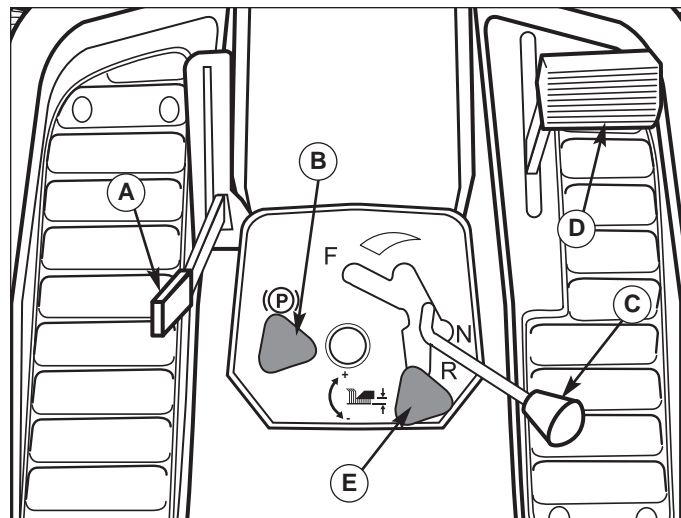

Figure 4. Controls
1. Remove the fuel cap (A, Figure 4).
Ground speed is selected by depressing the clutch/brake pedal (D, Figure 4) and moving the control lever (C, Figure 4) to the appropriate speed selection. If the terrain is rough, hilly or sloping, use first or second gear. If the grass is wet or over 3" (76mm) high, use full engine speed (with slow ground speed) so the mower will have enough power to cut the grass.
1. If you are ready to mow, lower the mower from the transport position using lever (A, Figure 4) and set the mowing height using the Dial-A-Cut™ Control (E, Figure 4).
4. Release the parking brake by depressing the clutch/brake pedal and pushing knob (B, Figure 4) down.
5. Move the ground speed control lever (C, Figure 4) to the desired direction and speed of travel to set the rider in motion.
1. Move the ground speed control lever (C, Figure 4) into the NEUTRAL position to make a gradual stop. To make a more rapid stop, depress the clutch/brake pedal (D, Figure 4).
2. Engage the parking brake by fully depressing brake pedal and pulling up on parking brake knob (B, Figure 4).
1. When traveling to or from the work site, fully raise the mower using the mower lift lever (A, Figure 4). At the work site, lower mower using the lift lever.
2. Use the Dial-A-Cut™ control (E, Figure 4) to adjust the height of the mower. Pull back slightly on mower lift lever (A, Figure 4) to relieve pressure and turn clockwise to raise mower cutting height, or counter-clockwise to lower cutting height.